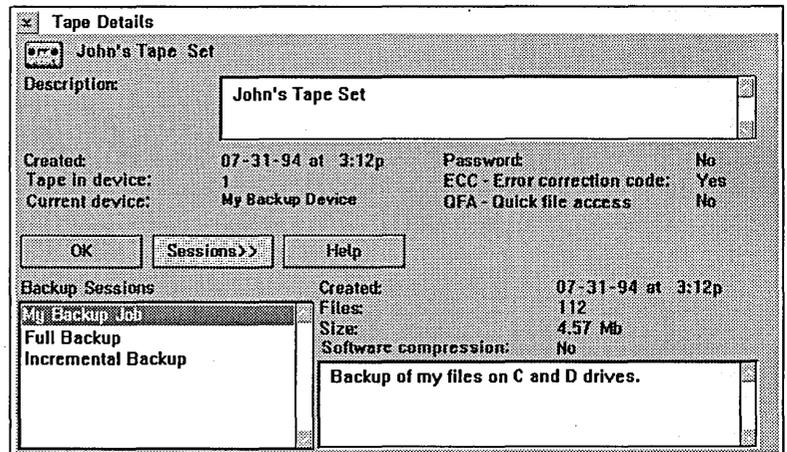

Figure 13-4. Expanded Tape Details
- 4 Click on **Sessions>>** to expand the Tape Details window, as shown in Figure 13-4, and view information about the Backup Sessions on the tape.